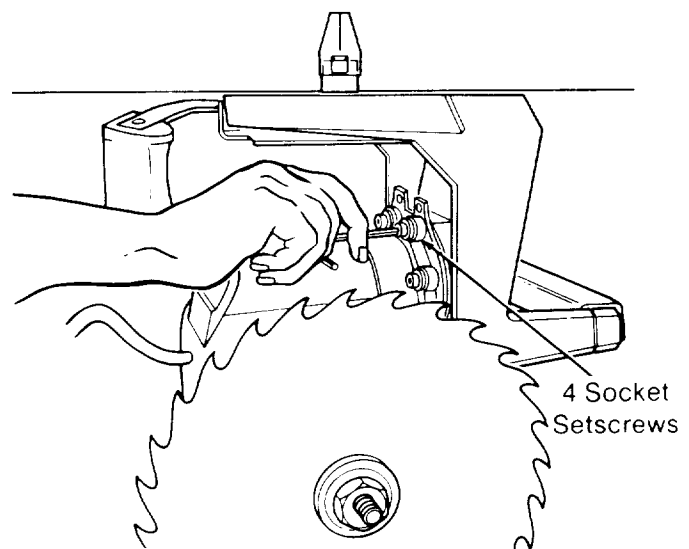

Fig. 67
7. Loosen the four screws behind the *yoke* using a 1/8 inch hex-L wrench. (Figure 67)